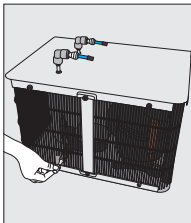
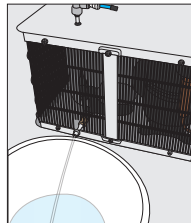
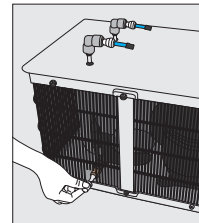

Figure 13
Figure 15
Figure 16
- 7.4 Undo the drain cap in the front of the cooler (Figure 13 and 14), and completely drain all the water from the reservoir into a bucket for disposal (Figure 15). Replace the drain cap (Figure 16). (Before the water cooler is returned to normal use, flush the reservoir thoroughly with clean, fresh potable water.)